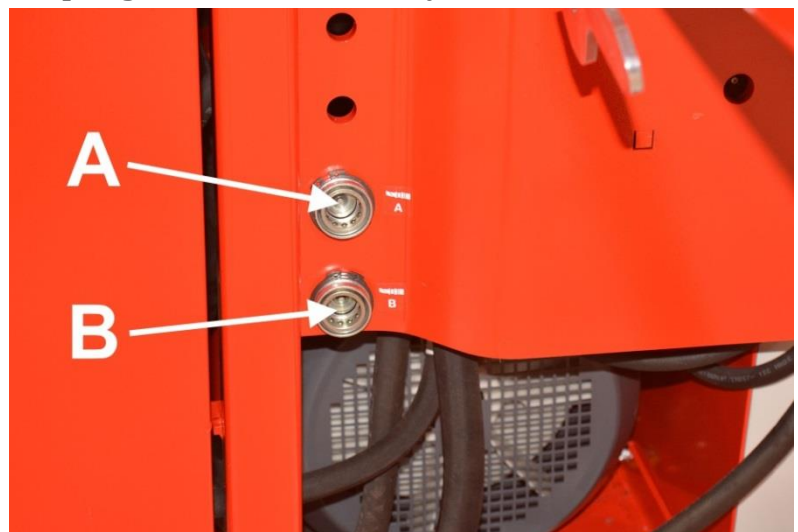

Figure 20.
1. Connect the additional hydraulics (e.g. when using the lateral transfer mechanism of the HakkiFeed 472 log table) by pushing the auxiliary device's hydraulic hoses into quick couplings A and B in Figure 20. Connect the accessory hose (marked in red) to quick coupling A.